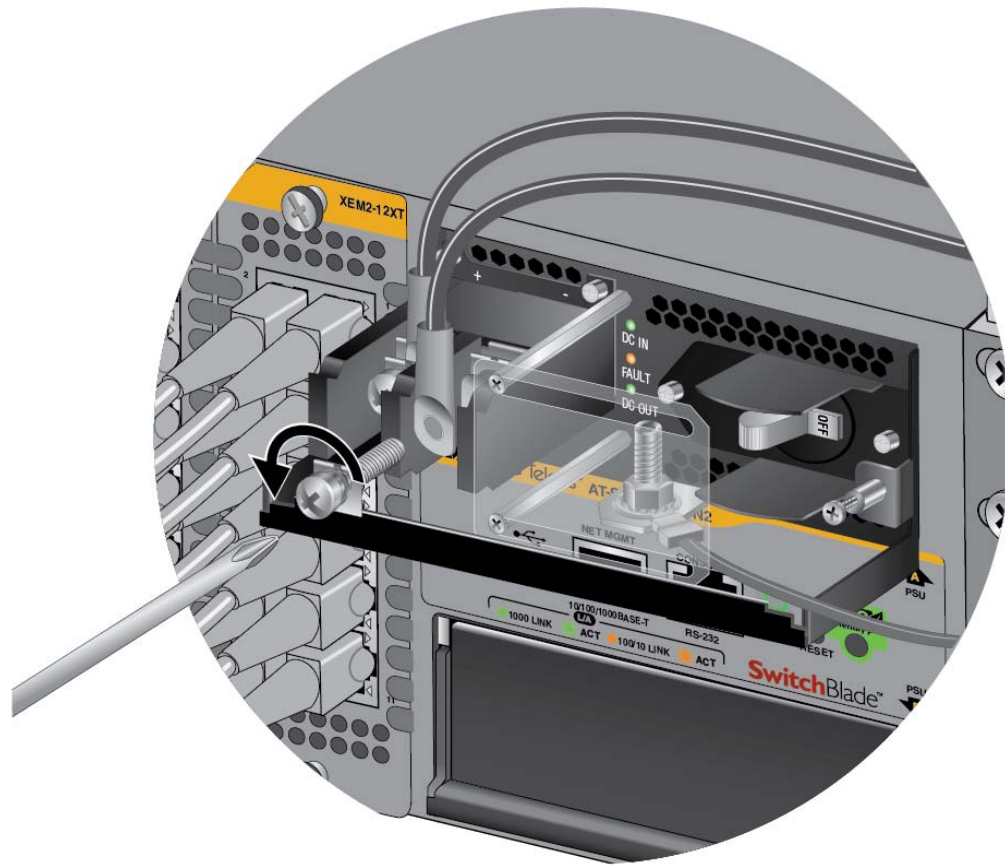

Figure 98. Removing the Negative Lead Wire
5. Use a #3 screwdriver to remove the negative (-) lead wire from the terminal block. The negative lead wire is on the right. Refer to Figure 98 on page 136.